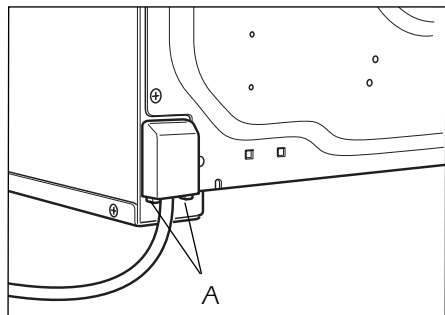

Fig. 7
- Unhook the terminal board cover by inserting a screwdriver into the two hooks "A" (Fig. 7).